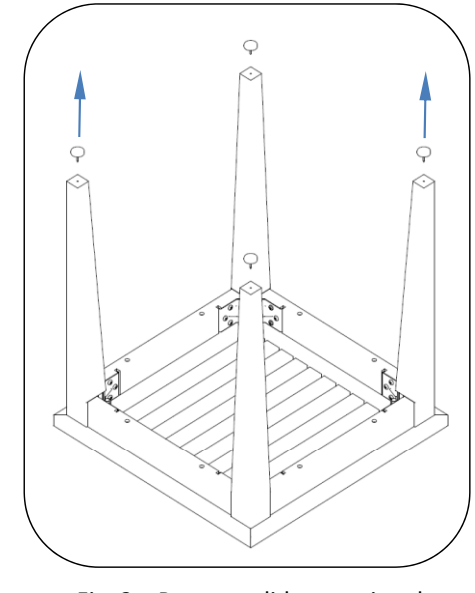

Fig. 2 – Remove glides - optional
1. Remove glides as shown in Fig. 2.